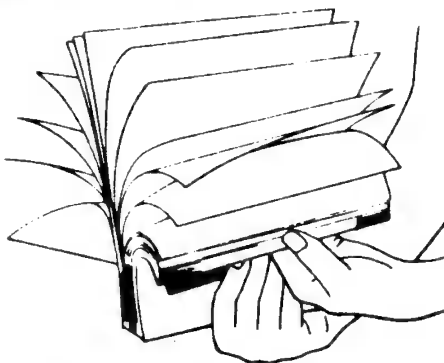

Figure C-9 Fanning the Paper
4. Fan the cut sheet paper as shown in Figure C-9, and align the edges before placing it in the Paper Stacker.